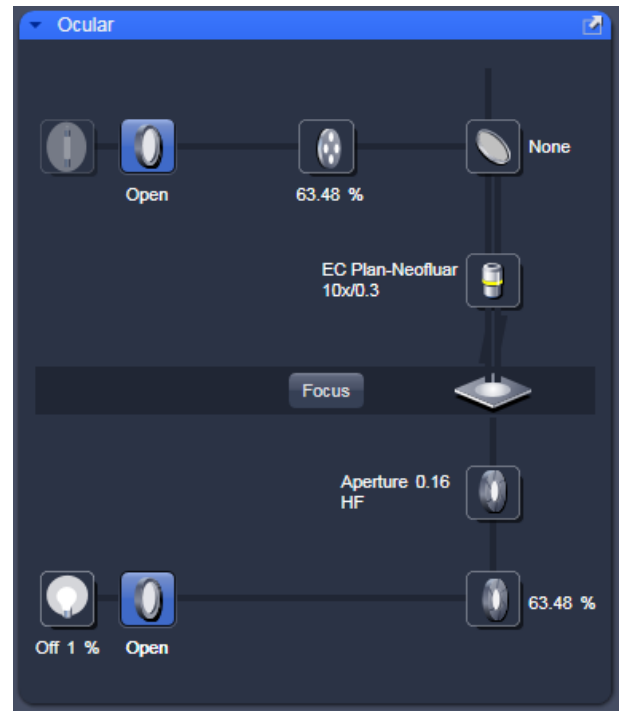

Fig. 11 Microscope Control window, e.g.: Axio Imager.Z2
Click on the **Locate** tab for direct observation; press the **Online** button for your actions to take effect immediately. Then open the **Ocular** tool to configure the components of your microscope like filters, shutters or objectives (Fig. 11).
- Open the graphical pop-up menu by clicking on the **Objective** symbol and select the objective lens for your experiment (Fig. 11).